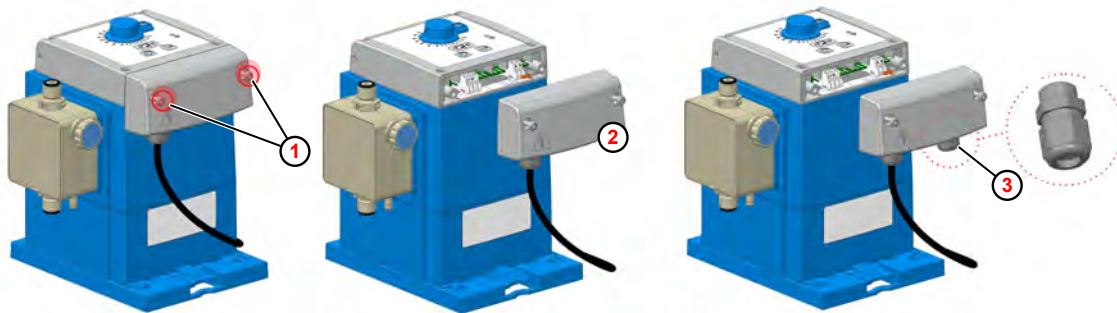

Fig. 11: Electrical installation 'EcoPro'
① Housing screw
② Terminal cover
③ Cable connections
1. Loosen both housing screws (Fig. 11 , ①). The screws are secured against falling out.
2. Remove the terminal cover ② .
3. To connect the external enable signal, mount the supplied M12x1.5 cable gland in the appropriate place ③ .